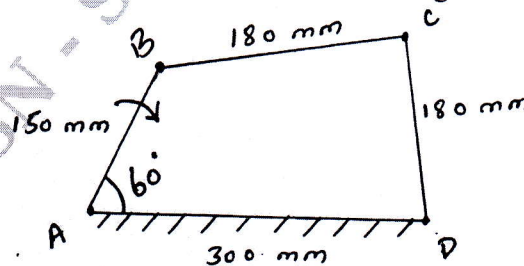

Fig Q5(b)
b. In a pin jointed four bar mechanism as shown in Fig Q5(b), AB = 150mm, BC = CD = 180mm and AD = 300mm. The angle of BAD =  $60^\circ$ . The crank AB rotates uniformly at 100rpm. Locate all the instantaneous center and find the angular velocity of the link BC.